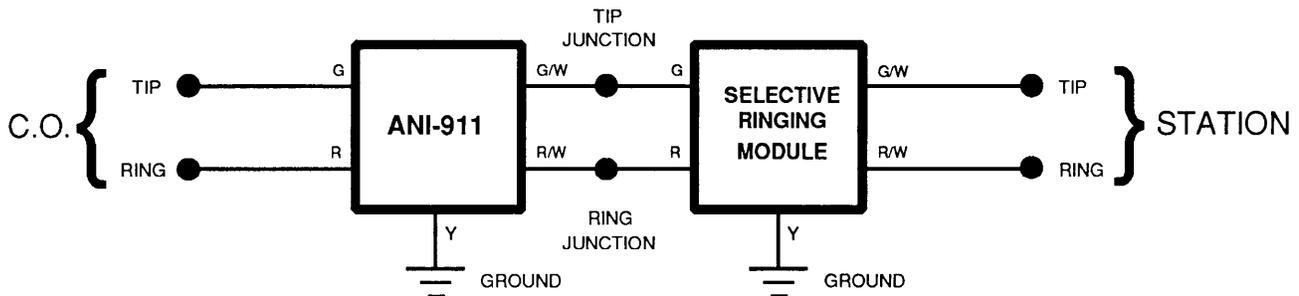

Fig. 3—Block Diagram showing DNI-910 wired in conjunction with a selective ringing module
3.07 When installing the DNI-910 in conjunction with a Keptel Selective Ringing Module, refer to Figure 3.
3.08 If installing the DNI-910 in conjunction with a Selective Ringing Module or Ringer Isolator, made by a manufacturer other than Keptel, refer to Figure 3.